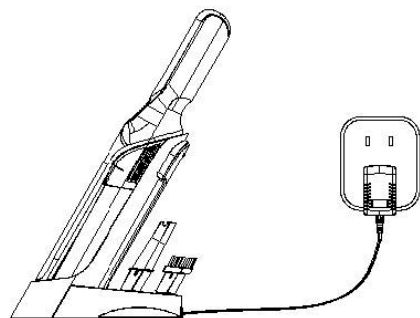
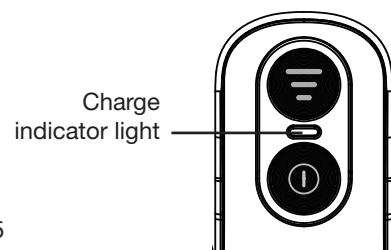

Fig. 5
Fig. 6
5. Place the vacuum cleaner on the charging base (**Figure 5**). When the charging connectors on the vacuum cleaner are in contact with the charging connectors on the base, the charge indicator light will flash (**Figure 6**), which means that the vacuum cleaner is recharging. When the indicator light is green, this means that the appliance is fully charged.